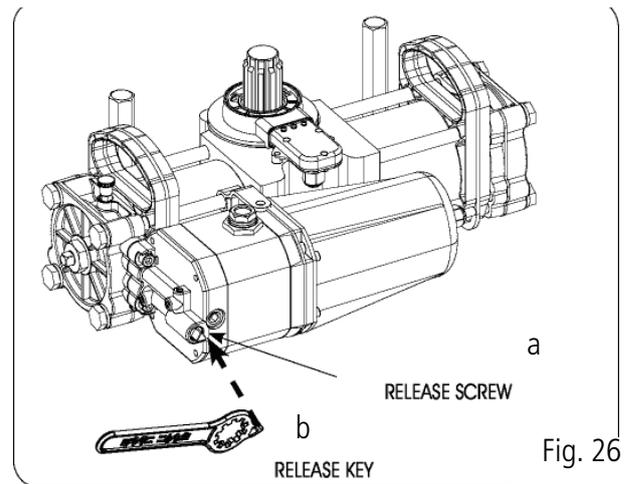

Fig. 26
If the gate has to be moved manually due to a power cut or fault of the automated system, use the hydraulic release device with the release key (Fig.26 ref. b):
2. Turn the release screw (Fig.26 ref.a) inserting the triangular recess of the supplied key (Fig.26 ref. b):